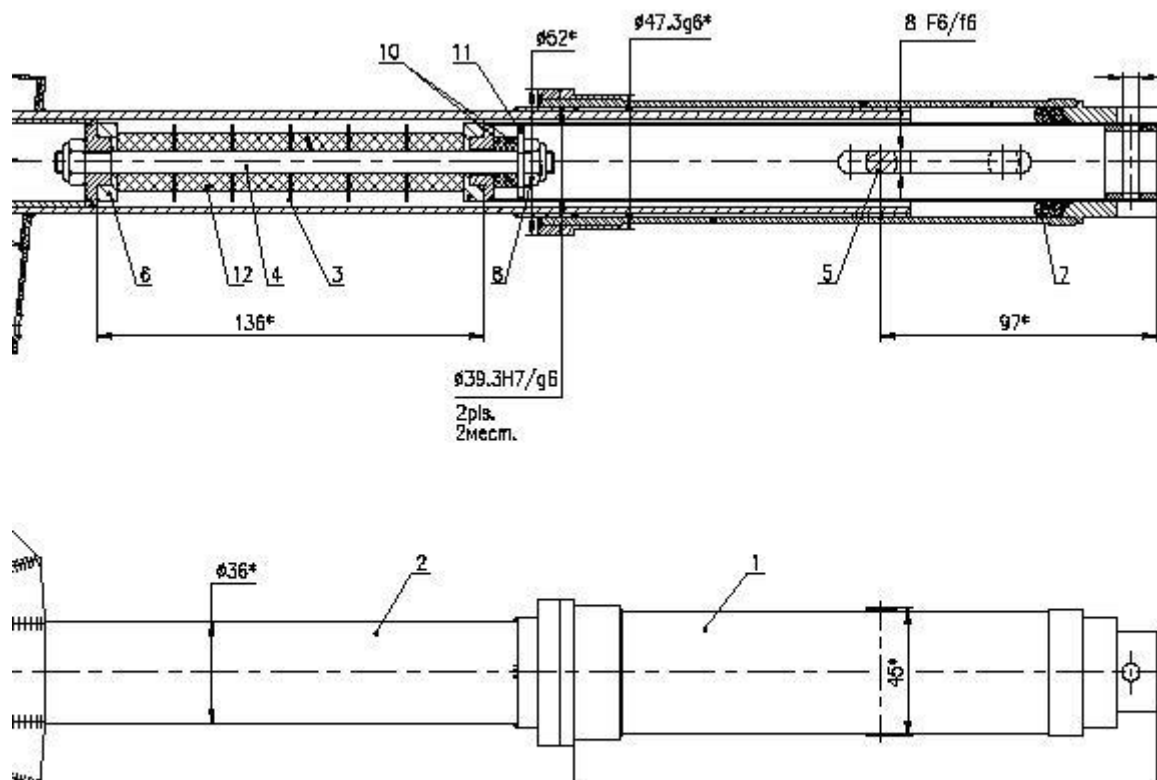

Fig. 4
- Take out the pin (KA4010101) (pos. 5, Fig. 4). Make sure there is no play between the pin (KA4010101) and the slot in KA4010110 Rotating body (pos. 2). Replace the pin (KA4010101) if necessary.
- Unscrew the upper nut (C9996336 Self-locking nut DIN 985-M8, regular) (pos. 8) by 2 screwdrivers with header 13 mm.
- Make sure of integrity of the Polyurethane Damper Elements (Urelastfeder 90 Shores (red 25/10,5 mm. X 20 mm)) (pos. 12). Replace if necessary
13. Stack the polyurethane damper elements to the pin axis (pos. 4) as follows: support (pos. 6) flat surface facing the first polyurethane element, 6 polyurethane elements separated each by a washer (pos. 3), support (pos. 6) (flat surface facing the last polyurethane element). See Fig 4.
15. Assemble the shock absorber by running items 1 through 3 in reverse order. Tighten the nut C9996336 (Self-locking nut DIN 985-M8, regular) 200 lb-in / 22.5 Nm.